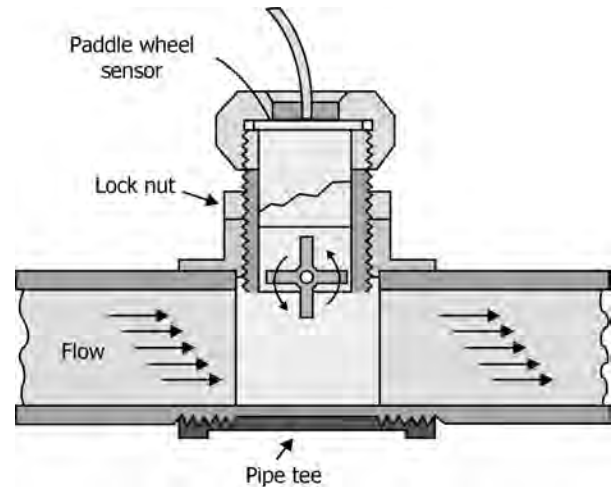

FIGURE 4.22 Paddle wheel flow meter.
- Figure 4.22 illustrates a paddle wheel type flow meter.